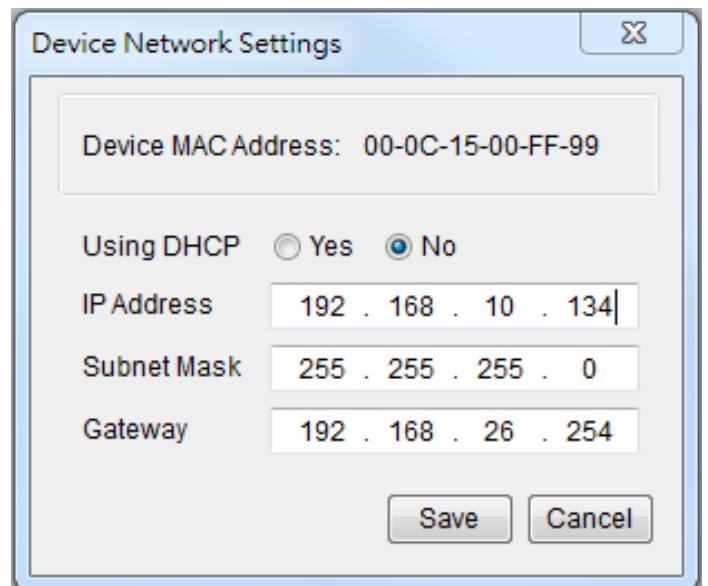

Figure 2. The Device Network setting window.
5. You can modify the IP Address, Subnet Mask, and Gateway address for the Device MAC Address listed in the Device Network Settings window, as shown in Figure 2. The **default IP Address is 192.168.20.177** and the default Subnet Mask is 255.255.255.0.